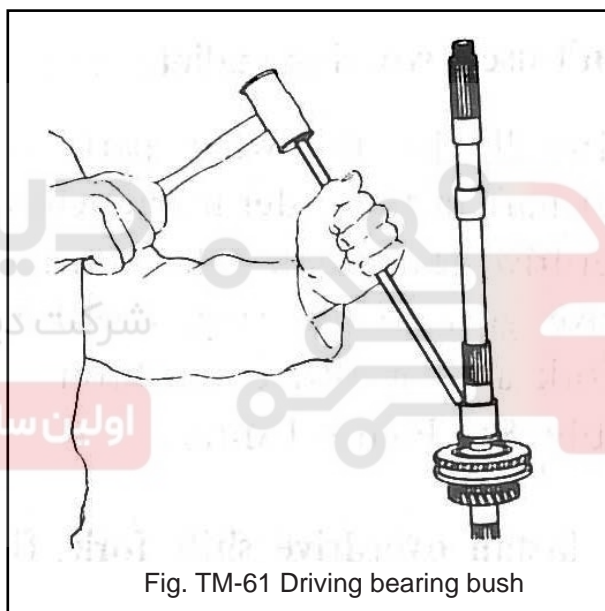

Fig. TM-61 Driving bearing bush
4. Using a proper brass drift, install 1st gear bushing onto mainshaft, see Figure TM-61.